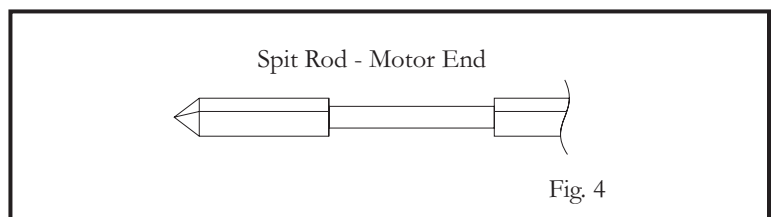

Fig. 4
6. Insert the Spit Rod into the Rotisserie Motor. (see Fig. 4)